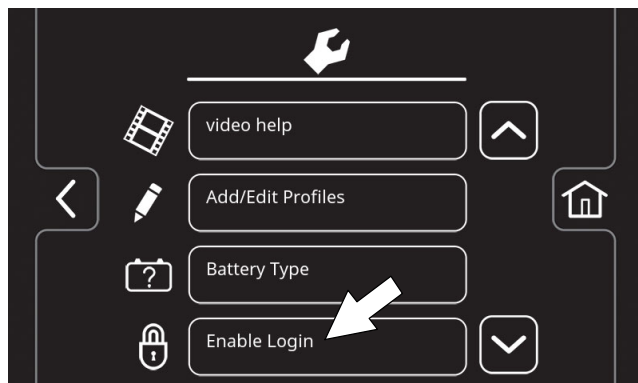

FIG. 161
4. Press the Enable Login button (Figure 161). The Enable button will change from Enable Login to Disable Login.